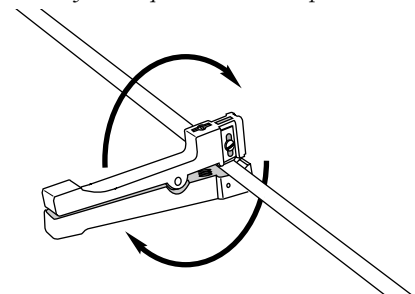

Figure 10
5.1 This section describes how to use an Ideal coaxial cable stripper (see Figure 10) to score the buffer tube found in FREEDM/LST cable. Scoring the circumference of the tube will enable you to make a clean break in the tube with minimal risk to the fibers inside.
- Make enough turns with the cutter to *score* the buffer tube (Figure 10).